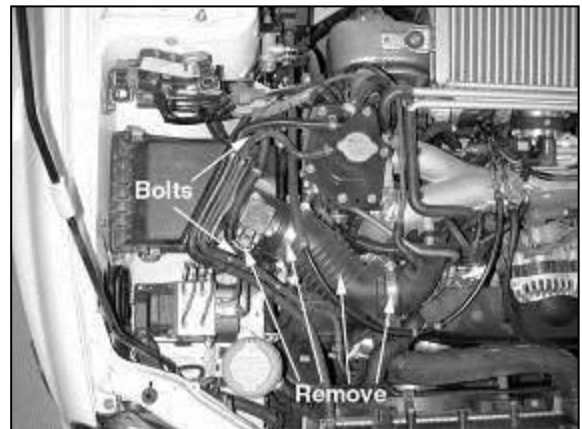

Fig. 2
**NOTE: Reinstall the bolts after removing the airbox. (Fig. 2)**